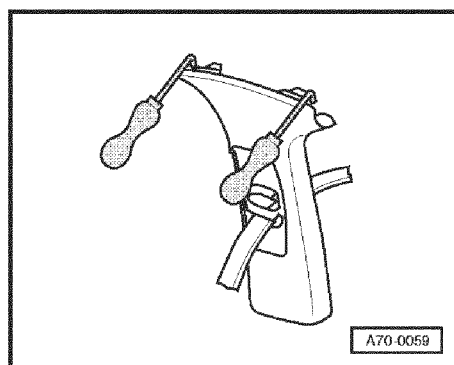

Fig.2 Removing lower B-pillar trim
- Unclipping upper B-pillar trim -1- => Fig. 2